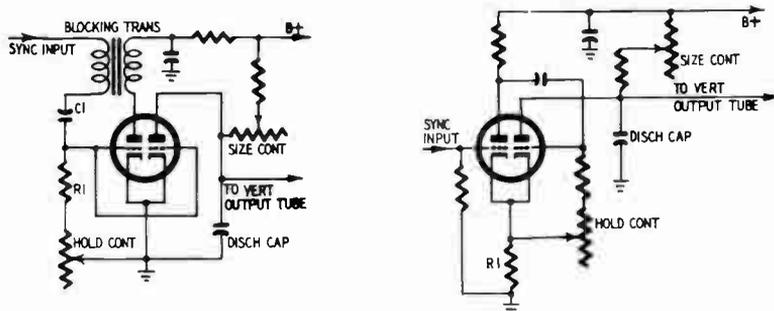

Fig. 1-V. Vertical-blocking oscillator and multivibrator circuits.
A weak vertical oscillator causes insufficient height and poor vertical linearity. A vertical oscillator working off frequency results in inability to obtain one complete pix from top to bottom within the range of the vertical-hold control. Fig. 1-V shows vertical-blocking oscillator and multivibrator circuits.
Compression	Capacitor at the grid of the vertical amplifier in series with resistor to ground. See Fig. 1-V.
Nonlinearity	Grid resistor of the vertical-output amplifier. See Fig. 1-V.
**SYMPTOMS:** Pix moves up and down; vertical-hold control does not lock pix in place. (See Fig. 1-H on page 71.)